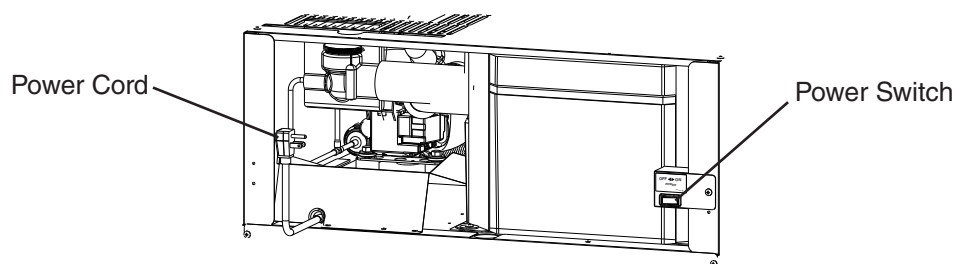

Fig. 31
- 2) Move the power switch to the "OFF" position, then unplug the appliance from the electrical outlet. See Fig. 31.